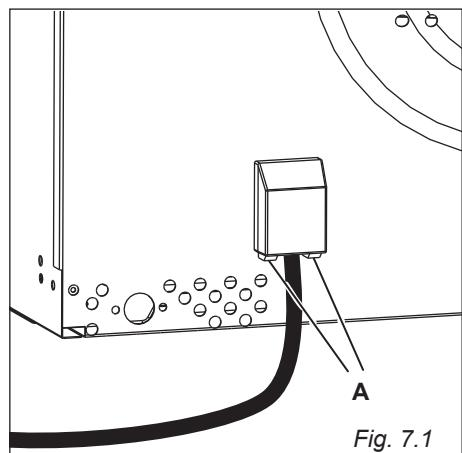

Fig. 7.1
- Unhook the terminal board cover by inserting a screwdriver into the two hooks "A" (fig. 7.1).